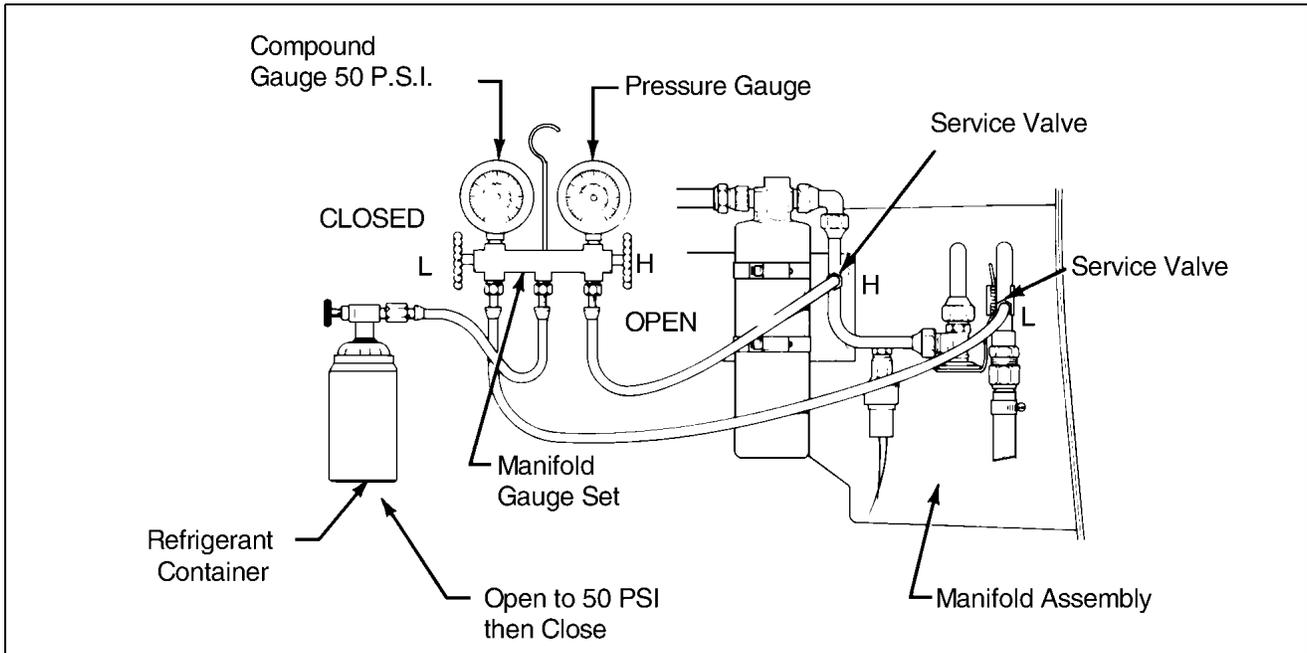

Figure 21-9. Leak Test
4. Leak Detection (reference Figure 21-9)